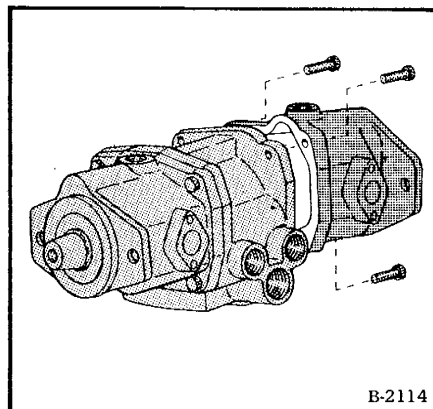

Fig. 3-17 Separating Pump From Motor
- (1) Valve Plate: Remove the four bolts. Carefully separate motor or pump from plate (Fig. 3-17).